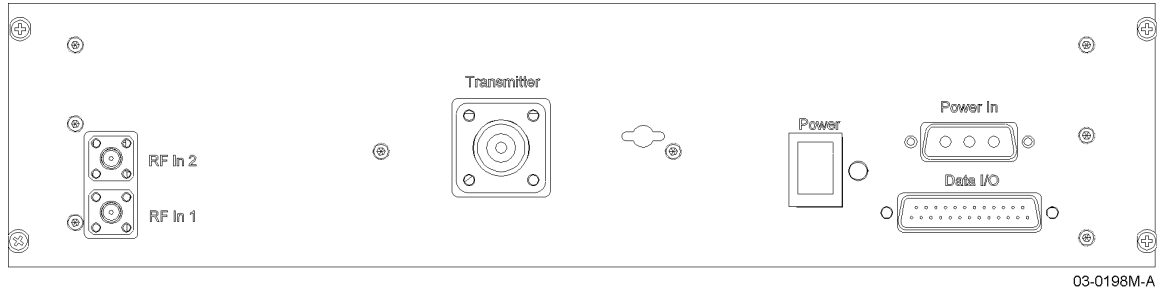

Figure 2-1 NTUM30DA Amplifier, Front Panel View
1. Install the amplifier and secure in place with appropriate mounting screws. See figure 2-1.